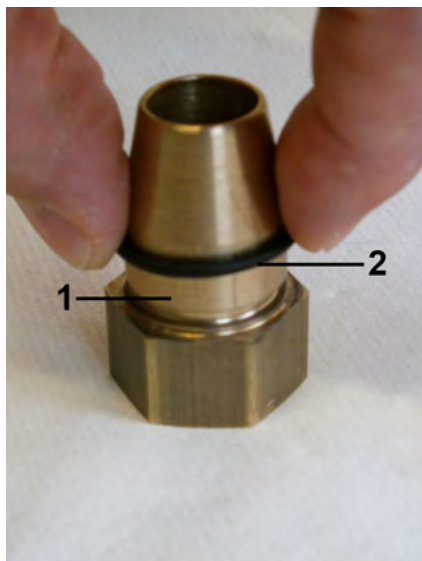

Fig. 30: O-ring (seal)
- 1.** ➤ Carefully install the O-ring (Fig. 30/2) with the aid of the O-ring installation tool (Fig. 30/1) onto the process connection (outlet), so that it is properly